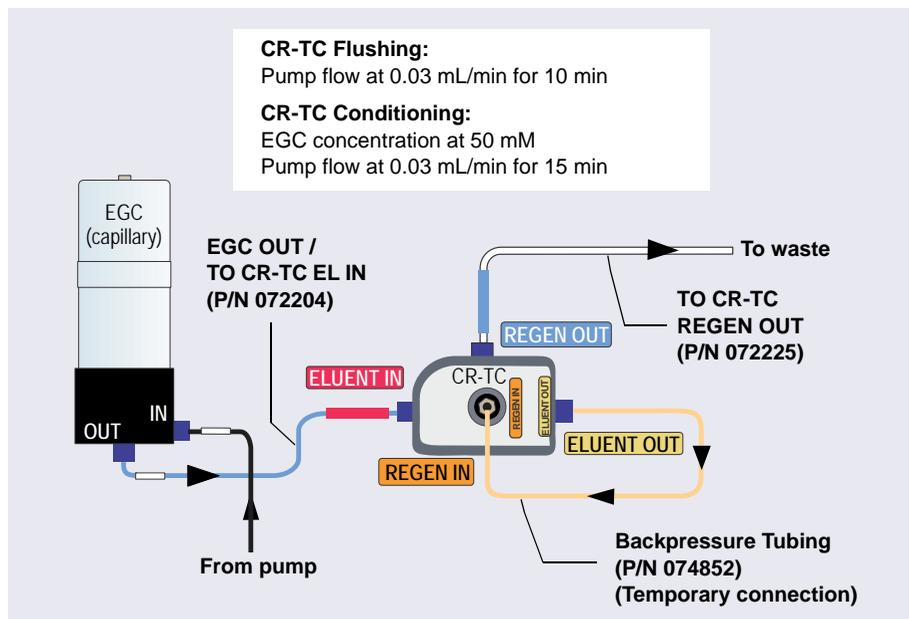

Figure 4-7. Flow Schematic for Flushing and Conditioning the CR-TC (Capillary)
2. Connect the plumbing for flushing the CR-TC as shown in Figure 4-7. The same plumbing is also used for conditioning the CR-TC.